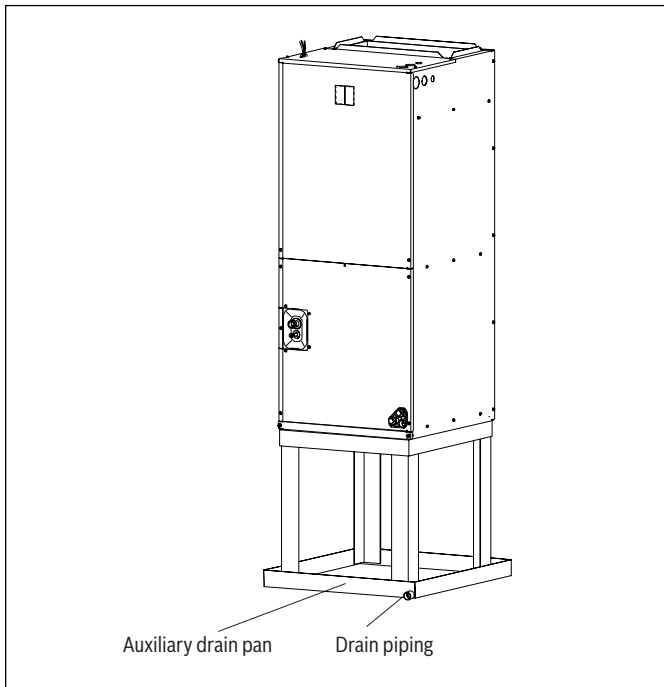
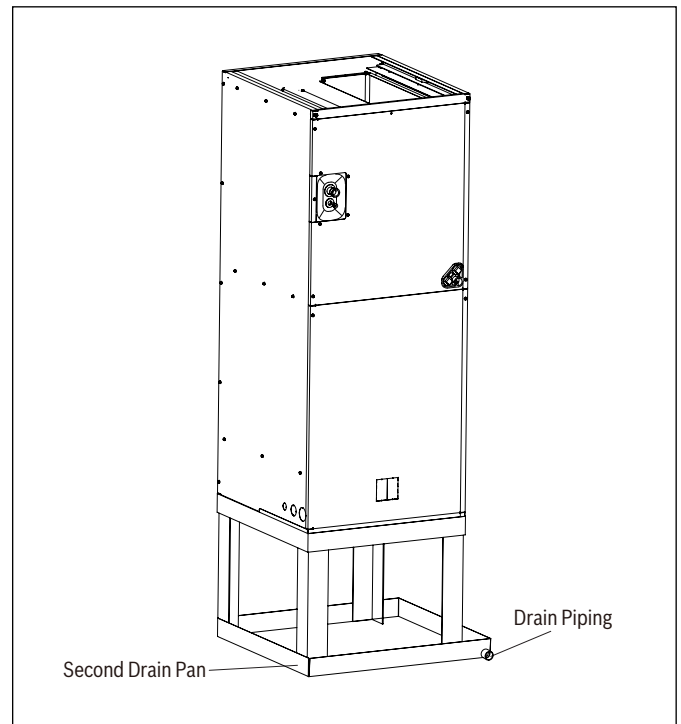

Figure 3 Installed vertical upflow
Figure 6 Installed vertical downflow
Condensation may come from the surface of the insulation. Be sure to use insulation that is designed for use with HVAC Systems. Condensation may be produced on surface during cooling operation. It is also recommended to use auxiliary drain pan and secure the unit firmly to prevent it from falling. See Figure 3 to Figure 6.
Inner extra drain pan is recommended to be installed for 4 and 5 ton vertical downflow applications installed in high humidity environments. This inner extra drain pan can be ordered using part number 8733953539 for 4,5 ton cabinets Refer to Figure 6.
- Vertical Upflow configuration is the factory default on all models (see Figure 3).